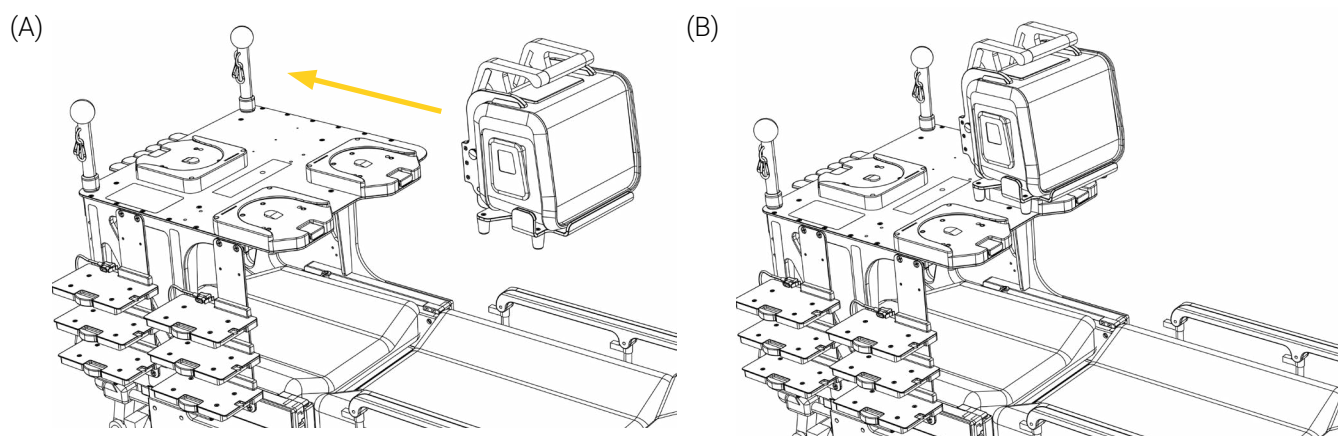

Figure 11: Installing the medical device on the mobile structure
3. Align and insert the standard bottom disc located under the mounting bracket of the medical device horizontally in the Standard Surface Base, on the top plate of the mobile structure until it is locked (Figure 11).